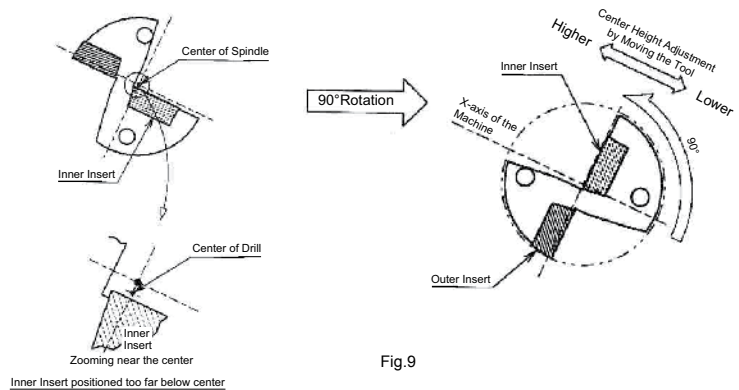

Fig.9
- ② If the core diameter becomes too large after the above adjustment, install the drill by rotating 90° counter-clockwise as shown in Fig.9 (outer insert is positioned lower) and adjust the center height by moving the tool in the X-axis direction. (However, this makes it impossible to adjust the cutting diameter)